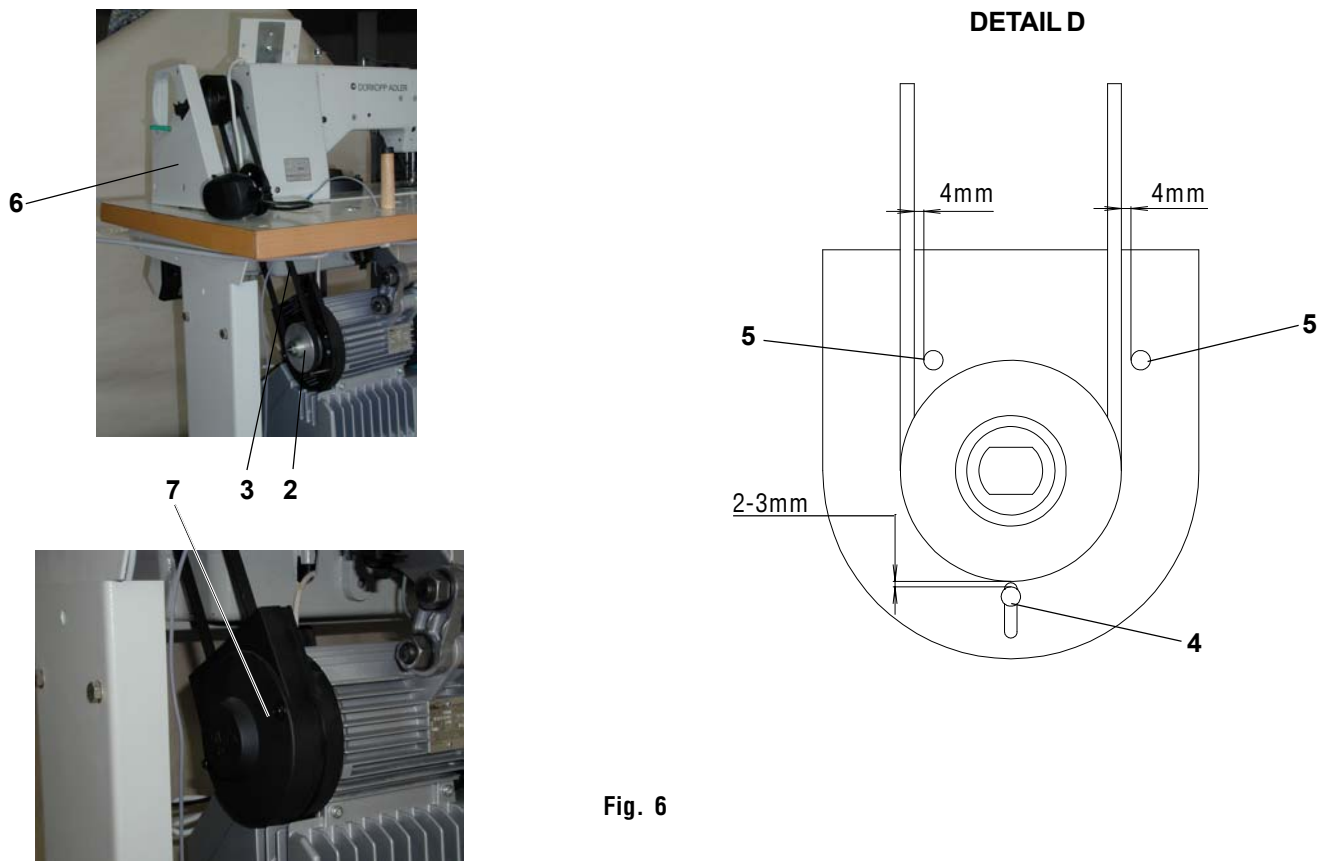

Fig. 6
5.1.2 Assembly of motor pulley, belt, belt covers (Fig. 6)